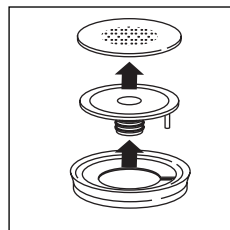

fig. 27
- Remove the gasket (fig. 27).